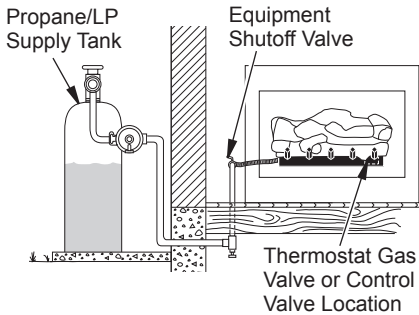

Figure 18 - Checking Gas Joints (Propane/LP Only)
3. Check all joints from gas meter to equipment shutoff valve for natural gas or propane/LP supply to equipment shutoff valve for propane/LP (see Figure 18 or 19, page 17). Apply noncorrosive leak detection fluid to all joints. Bubbles forming show a leak.
4. Check all joints from equipment shutoff valve to thermostat gas valve (Thermostat-Controlled Models) or to gas control (Remote-Ready Models) (see Figure 18 or 19, page 17). Apply noncorrosive leak detection fluid to all joints. Bubbles forming show a leak.